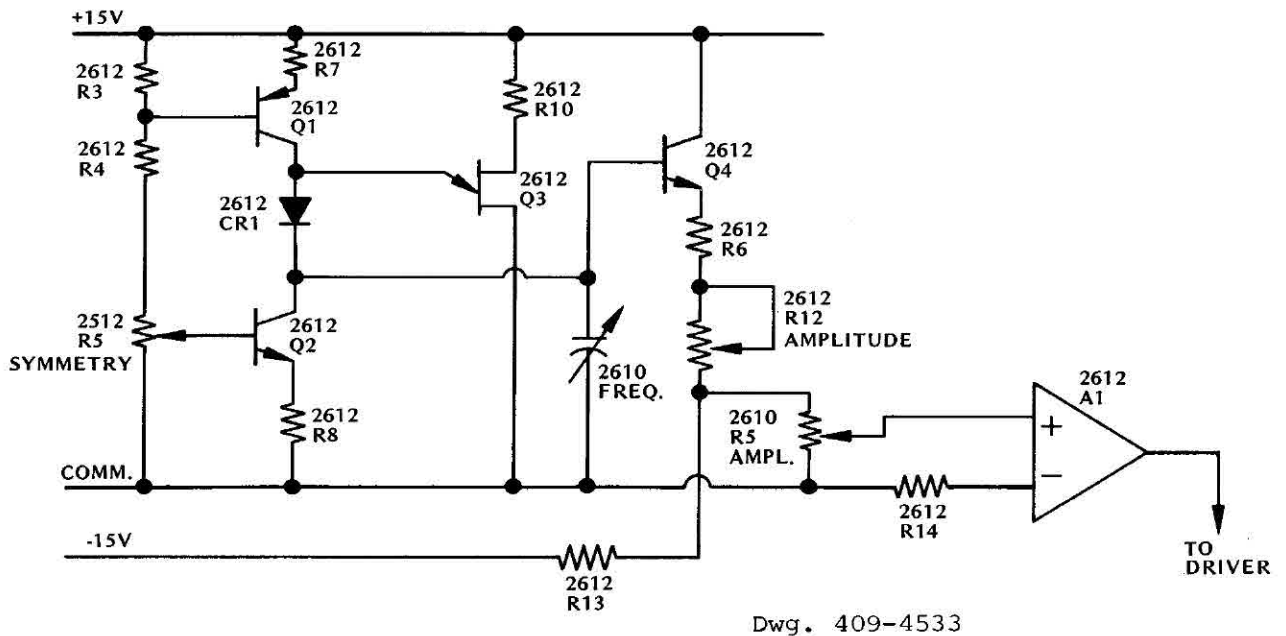

Figure 4-14. CV-14 A and B sweep generator
4.5 SWEEP CIRCUITS (Optional) (Figure 4-14)